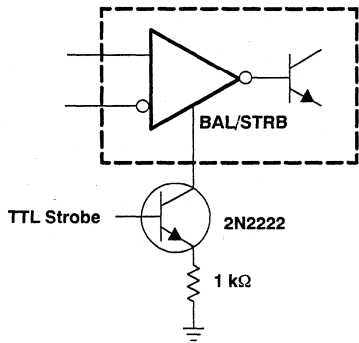

Figure 13. Strobing
6. The strobe should not be shorted to ground; it should be current driven at -3 mA to -5 mA , see Figures 13 and 27.
6. The strobe should not be shorted to ground; it should be current driven at -3 mA to -5 mA, see Figures 13 and 27.